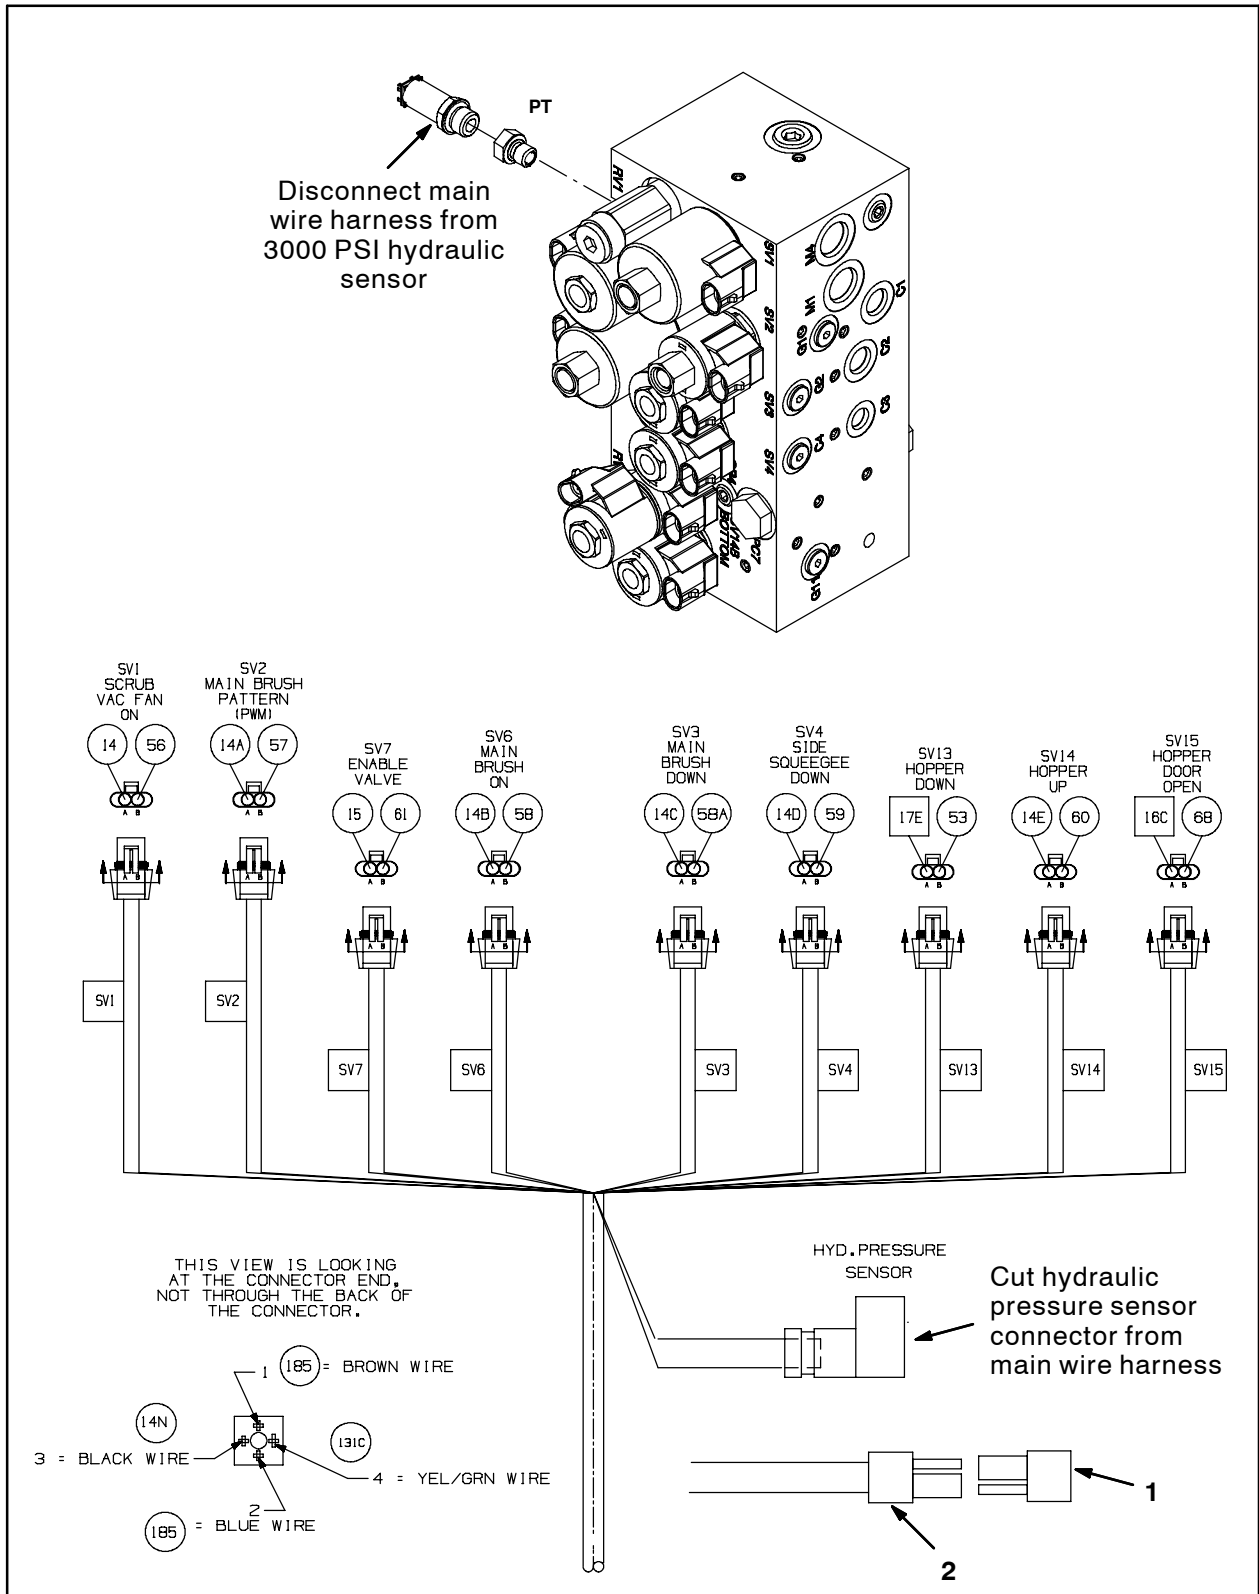
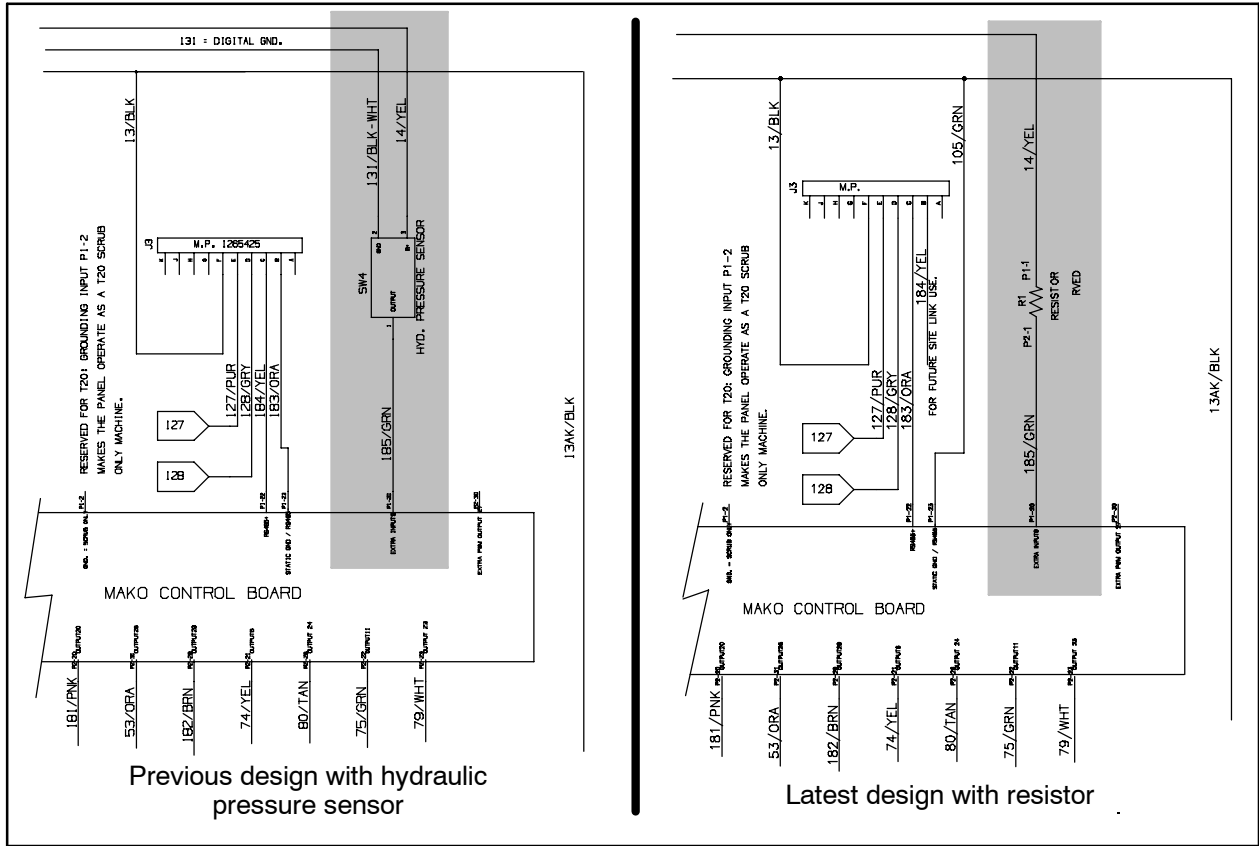

FIG. 1
FIG. 2
1. Disconnect the main wire harness from the hydraulic pressure sensor located at PT on the hydraulic solenoid valve. Refer to Fig. 1.
2. Cut the hydraulic pressure sensor connector from the main wire harness. Discard the connector. Refer to Fig. 1.
3. Heat a section of heat shrink (4) over the end of the BLACK-WHITE 131C wire.
5. Slide a section of heat shrink (4) onto the 185 GREEN wire and 14N YELLOW wire.
6. Use a 12GA splice connector (3) to connect the 185 GREEN wire and 14N YELLOW wire to the harness assembly (2). Refer to Fig. 1 and Fig. 2.
*NOTE: Wire polarity is not critical for the 185 GREEN wire and 14N YELLOW wire when they are connected to the harness assembly (2).*
7. Heat the sections of heat shrink (4) over the two connections made in the previous step.
8. Connect the 2.5K resistor (1) to the harness assembly (2). Refer to Fig. 1 and Fig. 2.
9. Use a wire tie to secure the resistor (1) / harness assembly (2) to the main harness.